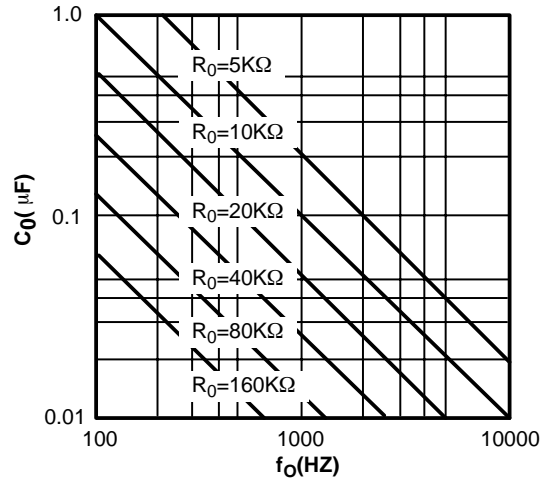

Figure 6. VCO Frequency vs. Timing Resistor
**VCO Timing Capacitor (Pins 13 and 14):** VCO frequency is inversely proportional to the external timing capacitor, C0, connected across these terminals (see *Figure 6*). C0 must be non-polar, and in the range of 200pF to 10 $\mu$ F.
- Calculate value of  $C_0$  from design equation (1) or from *Figure 6*  $f_S = f_0$ :